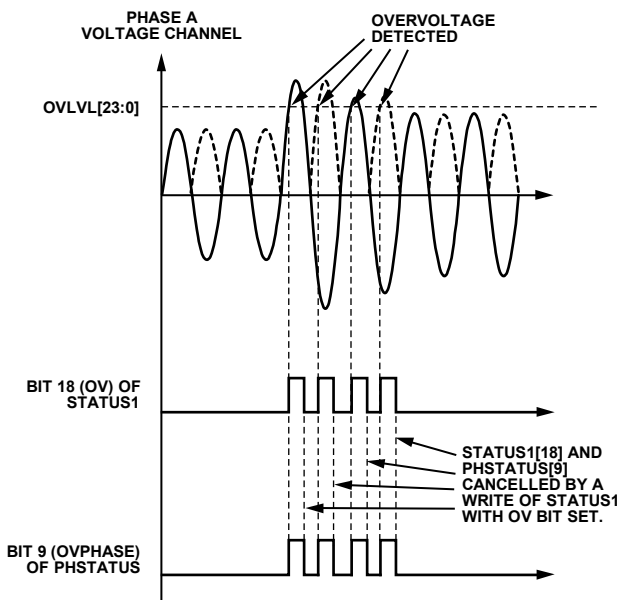

Figure 62. Overvoltage Detection
The ADE7880 detects when the instantaneous absolute value measured on the voltage and current channels becomes greater than the thresholds set in the OVLVL and OILVL 24-bit unsigned registers. If Bit 18 (OV) in the MASK1 register is set, the  $\overline{\text{IRQ1}}$  interrupt pin is driven low in case of an overvoltage event. There are two status flags set when the  $\overline{\text{IRQ1}}$  interrupt pin is driven low: Bit 18 (OV) in the STATUS1 register and one of Bits[11:9] (OVPHASE[2:0]) in the PHSTATUS register to identify the phase that generated the overvoltage. The Status Bit 18 (OV) in the STATUS1 register and all Bits[11:9] (OVPHASE[2:0]) in the PHSTATUS register are cleared, and the  $\overline{\text{IRQ1}}$  pin is set to high by writing to the STATUS1 register with the status bit set to 1. Figure 62 presents overvoltage detection in the Phase A voltage.